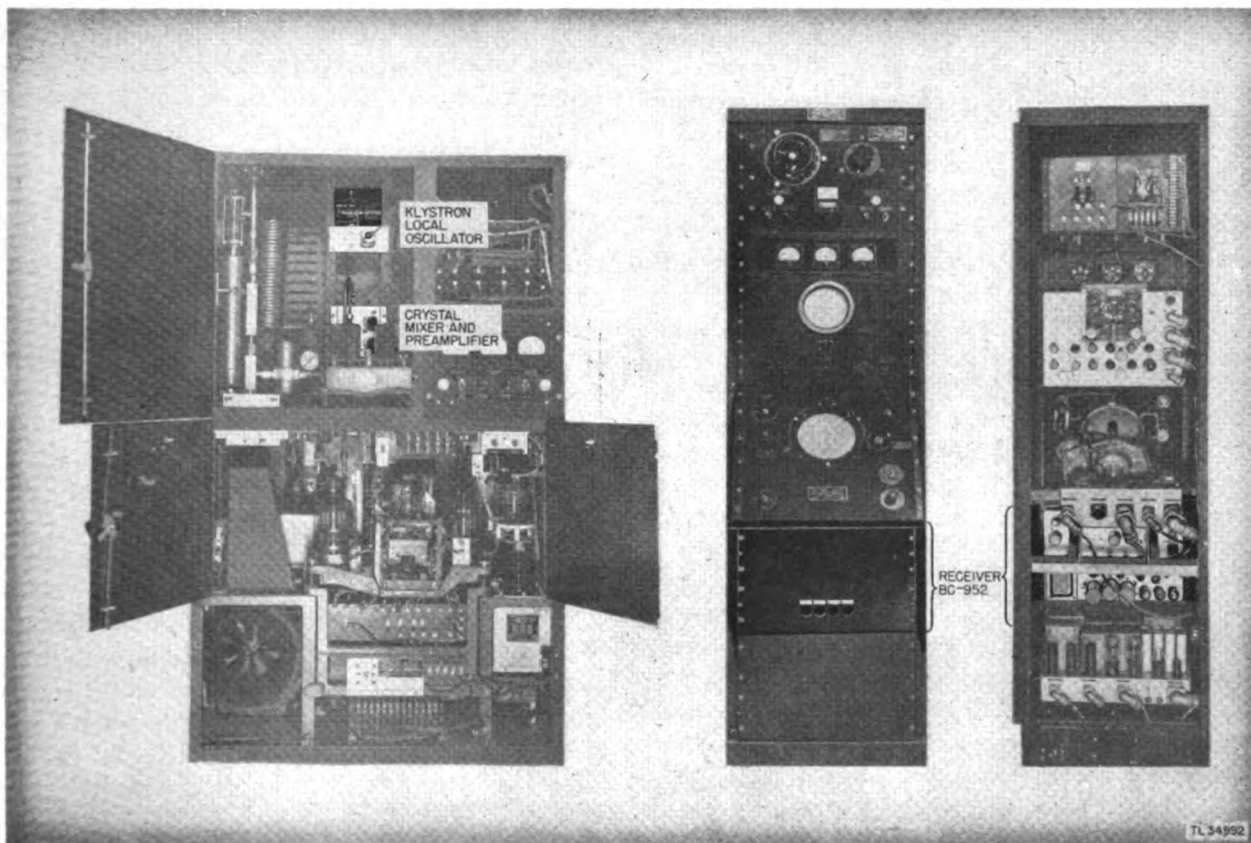

Figure 51. Receiver system.
(1) The local oscillator is a klystron-type oscillator located in the upper left-hand compartment of the transmitter cabinet (fig. 51). Its function is to oscillate at a frequency close to that of the transmitter oscillator, and by mixing with it, to give a comparatively low difference or intermediate frequency. In operation, the frequency of the local oscillator can be varied, as will be shown in subparagraph 45 (2).
(2) The crystal mixer, together with the preamplifier, forms a subassembly located in the upper left-hand section of the transmitter cabinet (fig. 51). The mixer is a device for mixing the reflected target echo or the transmitted signal (both of which are at the transmitter oscillator
(3) The preamplifier consists of two amplifier stages tuned to the intermediate frequency (i.f.) whose function is to amplify the difference frequency before it is applied to the receiver proper.
(4) The receiver proper further amplifies the signal at the intermediate frequency and then by means of the detector and video amplifiers converts the signal to a form suitable for application to the indicating system. It is located, together with the sensitivity circuit, the tuning indicator circuit, and the receiver power supply, in the chassis of Radio Receiver BC-952- (*) in the control cabinet (fig. 51).
(5) The receiver sensitivity circuit gives control over the amount of amplification obtained in the receiver and, by so doing, controls the *size* of the signal finally applied to the indicating system.
(6) The tuning indicator circuit is provided to furnish a visual indication of the tuning of the local oscillator. Although the necessary circuits are located in the receiver chassis, the tuning eye itself is located on the panel of the PPI scope.
(7) The receiver power supply is located on the receiver chassis. It supplies all the necessary voltages for the entire receiver.
(1) The klystron-tuning motor switch operates a reversible motor which turns an eccentric cam. The motor and cam vary the tuning of the klystron local oscillator and are located in the transmitter cabinet (fig. 51) directly below the klystron.
(2) The tuning eye gives a visual indication of the proper tuning of the local oscillator and is used in conjunction with the klystron-tuning motor switch. When the local oscillator is properly tuned, the wedge-shaped shadow on the tuning eye is at minimum width.
(3) The RECEIVER GAIN control in the sensitivity control circuit varies the sensitivity of the